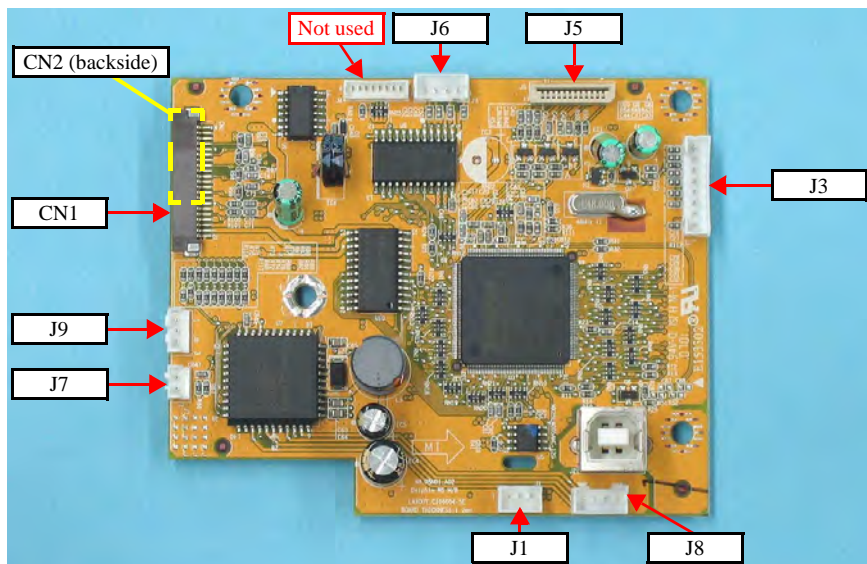

Figure 4-27. Connector Layout of Main Board
3. Route and connect the cables/FFC to the Main Board Assy. as shown below. Refer to Figure 4-27 for the connector layout on the Main Board.